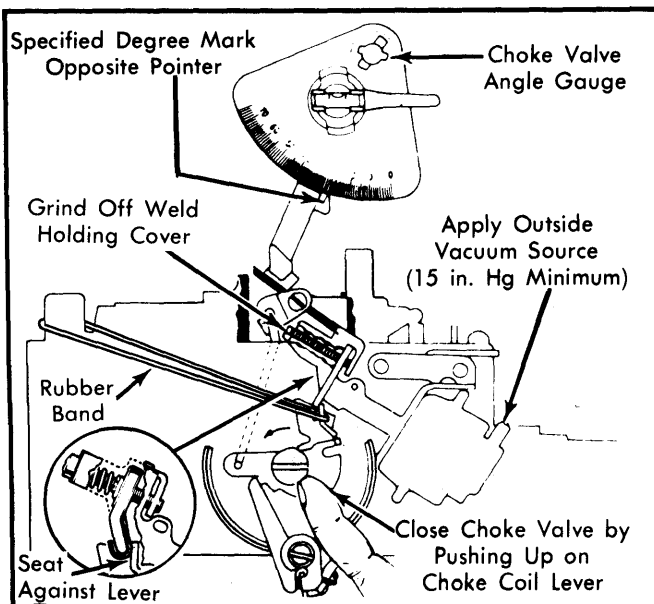

**Fig. 6 Adjusting Choke Rod (Fast Idle Cam)**
- 1) Place fast idle speed cam follower on second step of fast idle cam against shoulder of highest step. See Fig. 6.